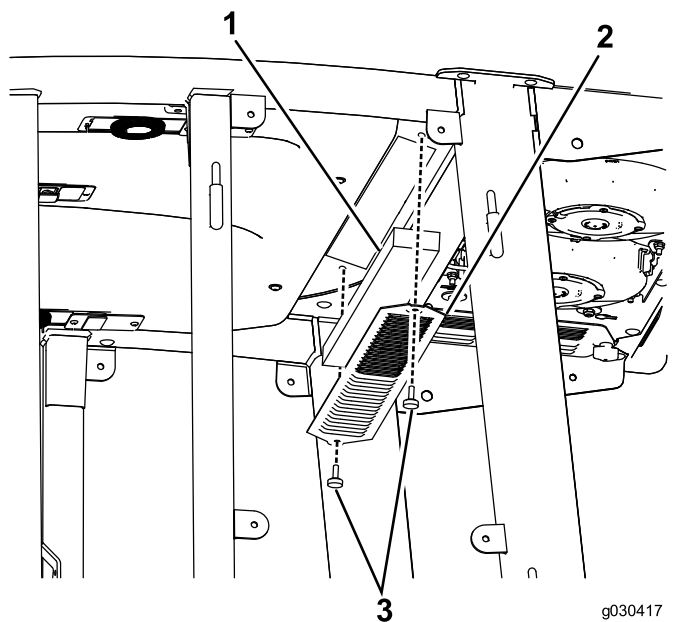

Figure 59
1. Remove the thumb screws and the grates from both the in-cab and rear cab air filters (Figure 59).